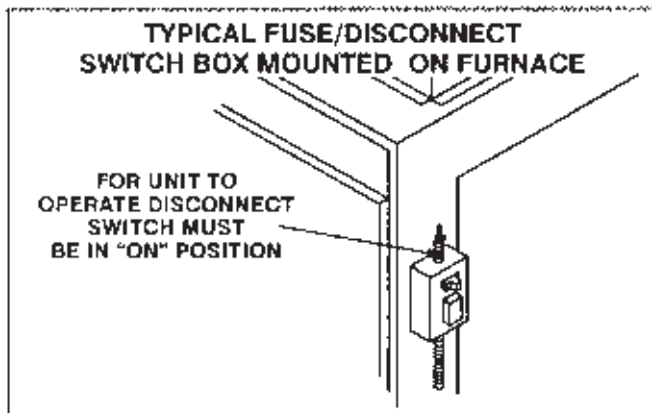

FIGURE 4
- 3- Turn off all electrical power to appliance. See figure 4.
- 1- Turn off power to furnace at unit disconnect switch. See figure 4.